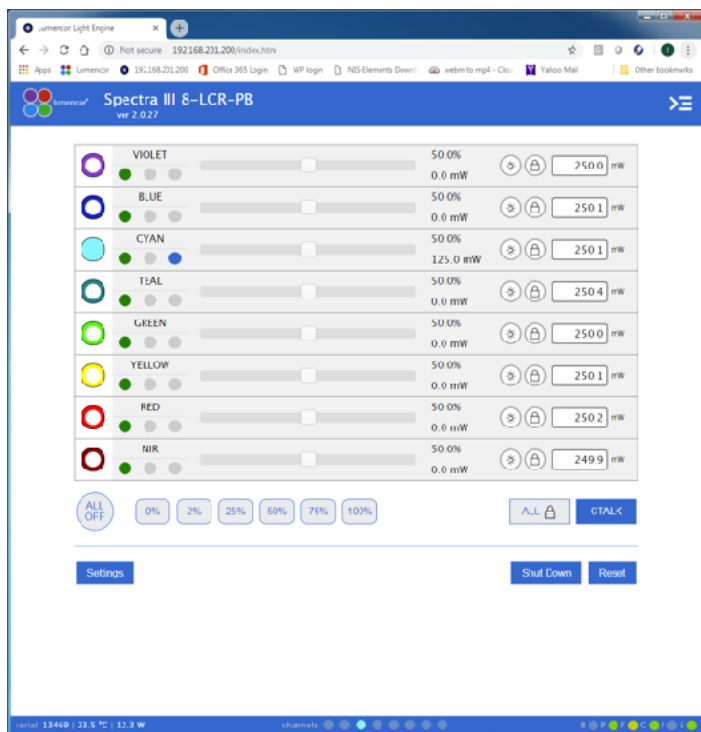

Figure 5. SPECTRA GUI, Control Tab. The GUI is accessed by typing the Light Engine IP address (198.168.201.200 in this example) into a web browser.
- 3** For subsequent start ups, use the master power button to start or shut down the Light Engine. Shut down can also be accomplished using the “Shut Down” button in the GUI (Figure 5, left).
The Web GUI provides a quick and easy way to control the Light Engine, providing the ability to turn each source on/off, adjust the power of each source independently from off to full power (Figure 5). The GUI also tracks the total on time and displays real-time power sensor readings. To set up the Web GUI, follow the follow protocol below:
Unusually weak fluorescence signals in a single detection channel (e.g. DAPI)	<ol style="list-style-type: none"> 1. Check that the Light Engine power output reading in the Web GUI (Figure 5) is normal. 2. Check that the dichroic beamsplitter and emission bandpass filter in the microscope are compatible with Light Engine excitation filter specifications shown on the certificate of conformance (Figure 1)².
¹ If a safety interlock is open, the condition will be indicated by a red status indicator in the lower right corner of the GUI control screen (Figure 5). ² Excitation filters are installed in the Light Engine. Excitation filters installed in the microscope cube are generally redundant and it is recommended that they are removed.